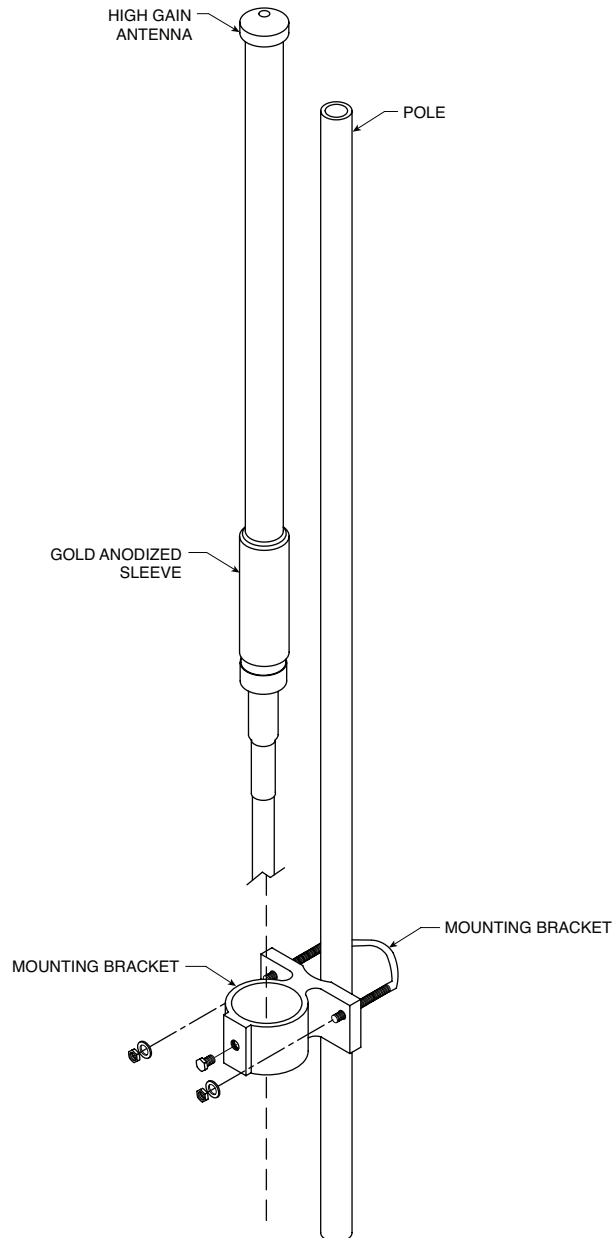

Figure 3-2. Mounting Kit Connection
- Mount your antenna to a pole with an FM2 mounting kit. See Figure 3-2.